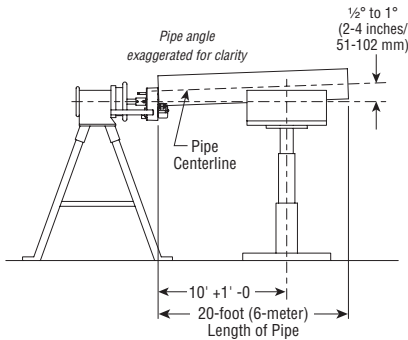

Figure 1 - Support of Pipe
- b. Place the pipe stand at a distance slightly beyond half the pipe/tubing length from the tool. Refer to Figure 1 above.
- d. Adjust the height of the pipe stand so that the pipe is approximately $1/2^\circ$ to 1° ABOVE level. Refer to Figure 1. **NOTE:** The pipe/tubing must be inserted into the rolls while the height of the pipe stand is adjusted.
- Figure 1 shows the Victaulic Adjustable Pipe Stand (VAPS 112). The VAPS 112 is suitable for $3/4$ - 12-inch sizes. The Victaulic Model VAPS 224 is suitable for 2 - 24-inch sizes. Refer to the "Accessories" section on page 25